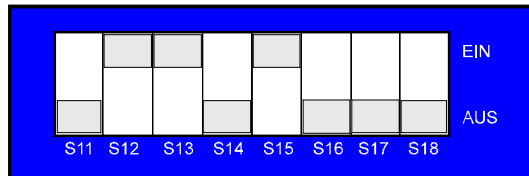

fig.10.1
- a) Set to the code No. for parameter 700 on switches row 1 (front) (01101000) (Fig. 10.1)